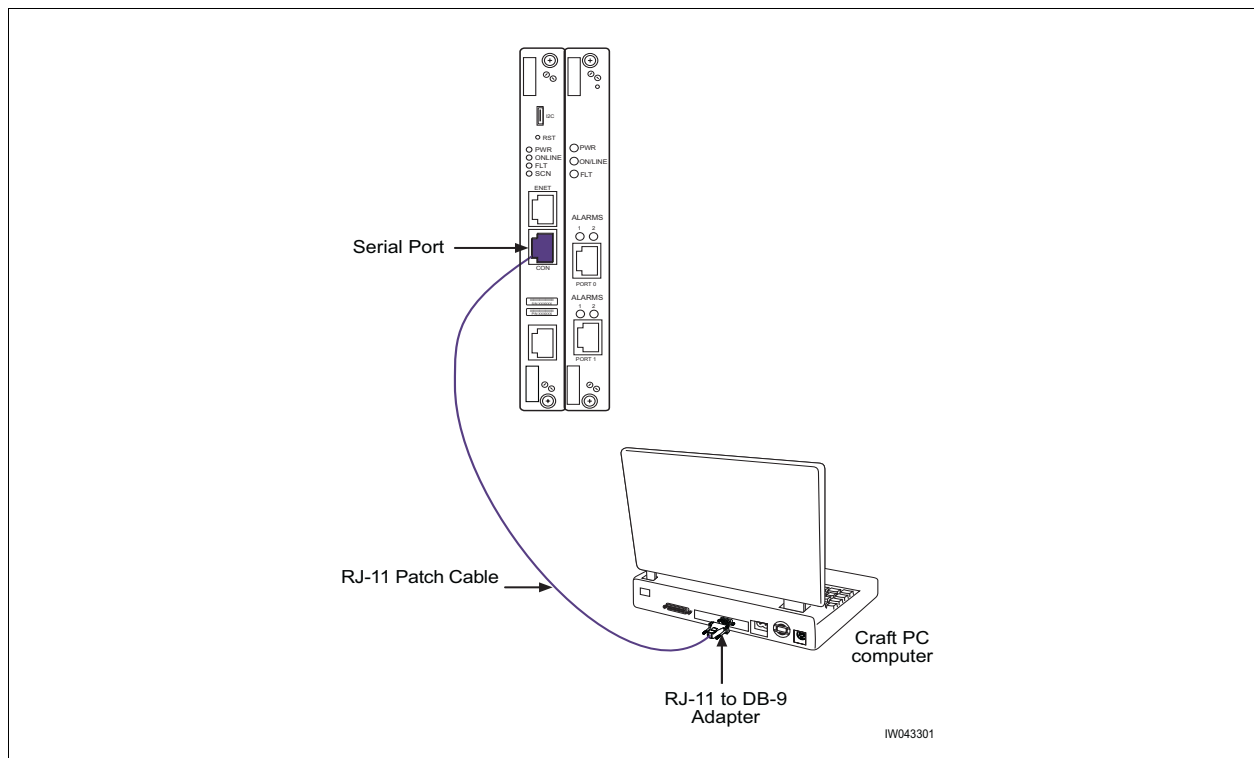

Figure 3-2: Connecting the Craft PC to the ICP Serial Port
- 2 Connect the opposite end of the RJ-11 patch cable to the DB-9 adapter and connect the DB-9 adapter to the serial port on the back of the Craft PC, as shown in the Figure 3-2.
Figure 3-2 shows a physical serial port connection between the Craft PC and the ICP processor card.